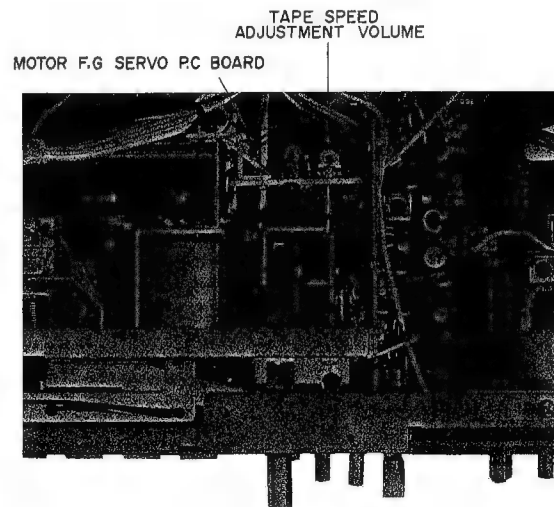

Fig. 10 Tape Speed Adjustment
8. TAPE SPEED ADJUSTMENT (Refer to Fig. 10)